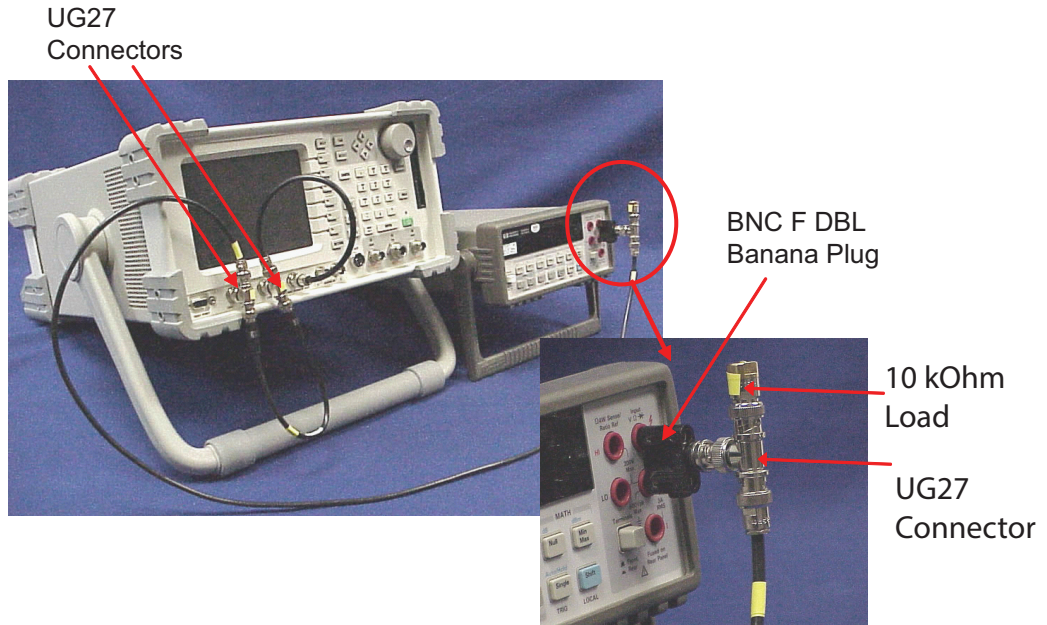

Fig. 4-38 Scope AC Calibration Setup
3.	Configure Equipment. Refer to Fig. 4-38 as needed.